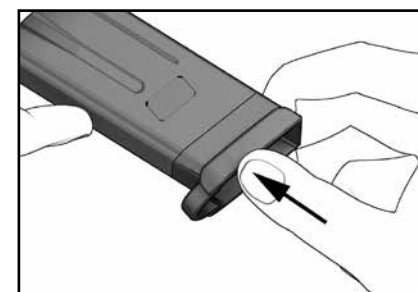

Figure 32
6. Check to see if the locking tabs on the floorplate are securely locked into the housing and the locking detent on the locking plate fits within the hole in the floorplate. (Figure 32)